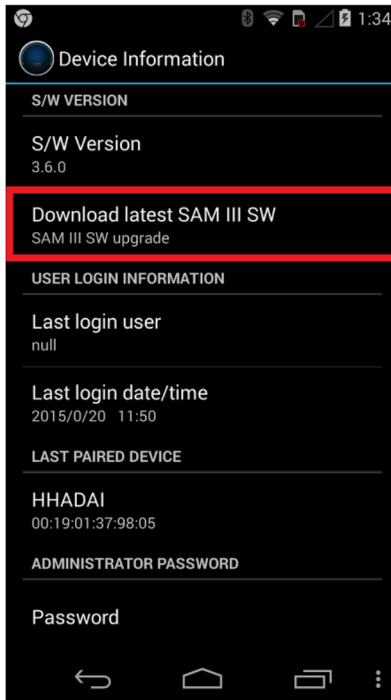

Figure 4.36. PeakAbout software upgrade, step 1
1. Open the Setup menu, scroll down to the bottom and select **Device Information**, then select **Download Latest SAM III SW** (Figure 4.36). A pop-up window will appear.